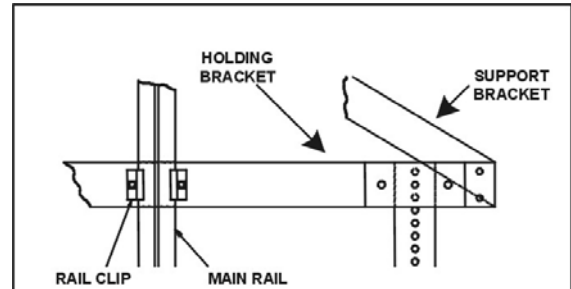

Figure 1-10
- With the tape hanging motionless secure it to the top bracket. [See Figure 1-10.]